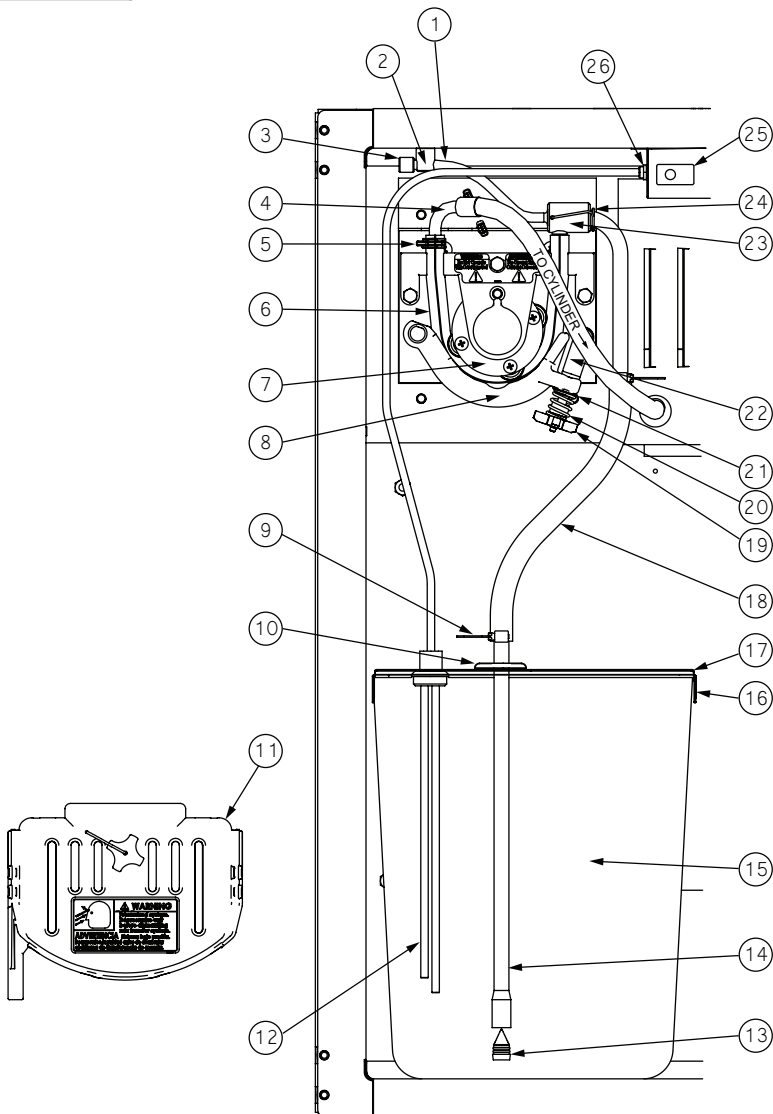

Figure 9-1 Cabinet (LEFT SIDE*)
3. In the cabinet below (see figure 9-1). Disconnect the mix probe cords from the back of the cabinet.